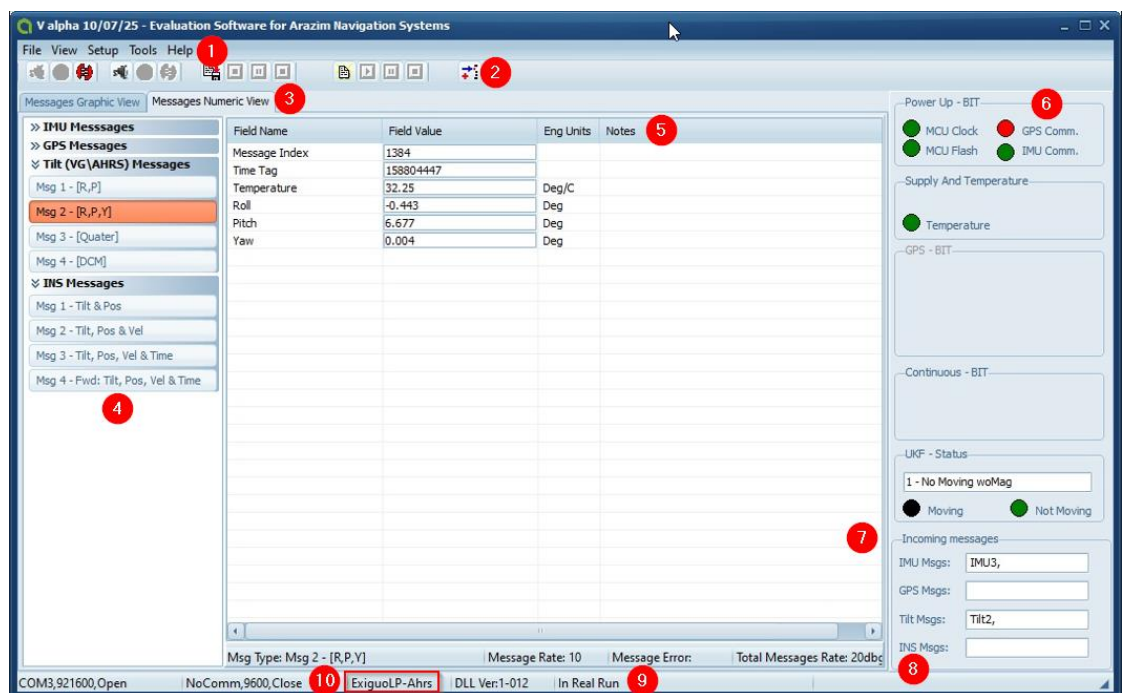

Figure 2. arazim Navigation Evaluation Software Home Screen
Table 1 lists the area names and functions in the arazim navigation evaluation software home screen. Figure 2 shows the location of each area referred to in Table 1.
1. The left portion of this view shows a list of messages available for a selected Navigation device (Figure 2, Reference 4)
2. The main portion of this view (Figure 2, Reference 5) shows:
- a. **Message Rate:** the number of times a selected message was received per second (Figure 2, Reference 4)
- b. **Message Error:** the number of times an error message was received per second (Figure 2, Reference 5)
- c. **Total Messages Rate:** the total number of user and system messages received per second (Figure 2, Reference 6).
The platform name (Figure 2, Reference 10) can be valid for Exiguo (EX100), ExiguoLP (EXLP100), and gINS (gX100), which all use the VG/AHRS algorithm.
5. The right portion of this view shows a panel with all BIT indicator information (Figure 2, Reference 6). These indicators are arranged in user-friendly groups